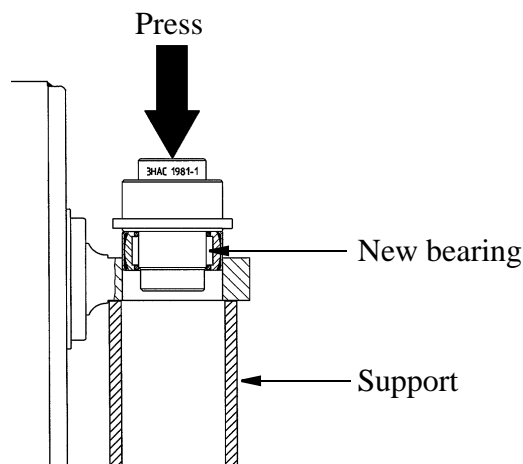

Figure 9 Mounting bearing.
3. Turn the tool upside down. Place the new bearing on the tool with the bearing number upwards (facing the tool). Push the new bearing down as shown in Figure 9.